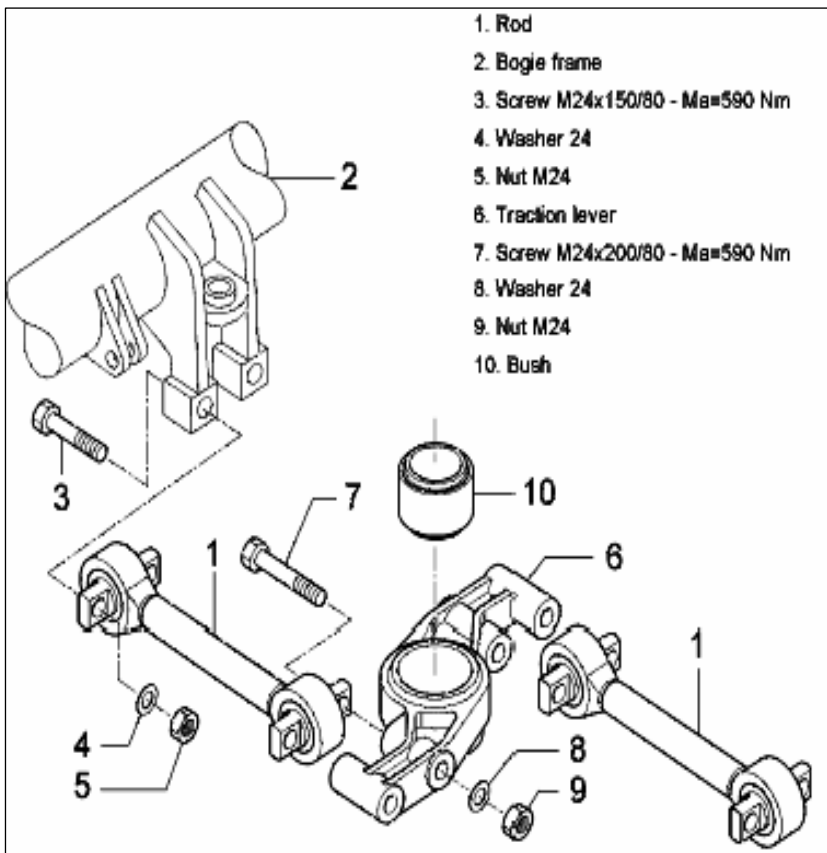

Fig. 4.3 Mounting the Traction Center
In order to mount the traction center (Fig. 4-3), first assemble the traction lever (6) with the bush (10) and the rods (1). Then connect the free ends of the rods (1) to the bogie frame (2) using the screws (3), the washers (4) and the nuts (5).